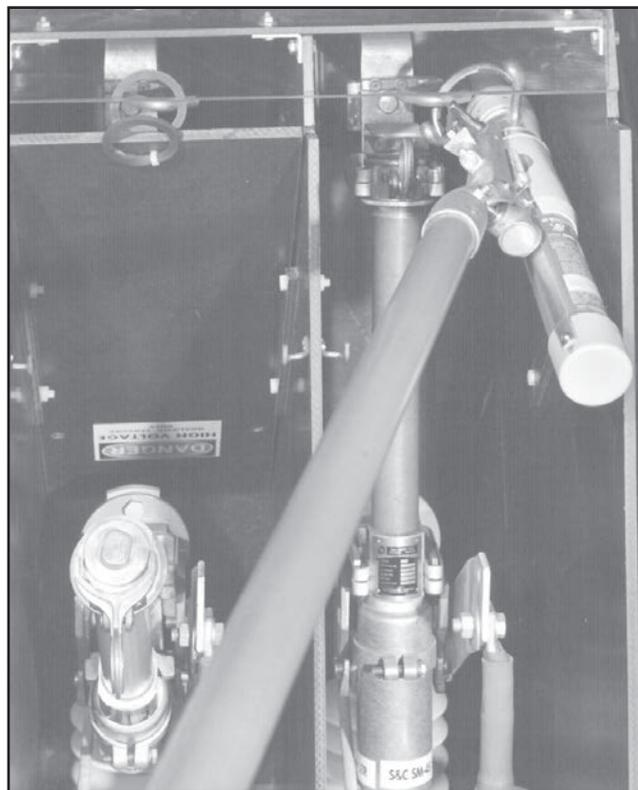

Figure 8. The Loadbuster anchor connected to an attachment hook.
- STEP 1.** Reach across in front of the fuse unit or holder with the Loadbuster tool and hook the anchor, located at top of the Loadbuster tool, over the attachment hook on the far side of the fuse unit or holder. See Figure 8 on page 15. Note that only one attachment hook is provided.